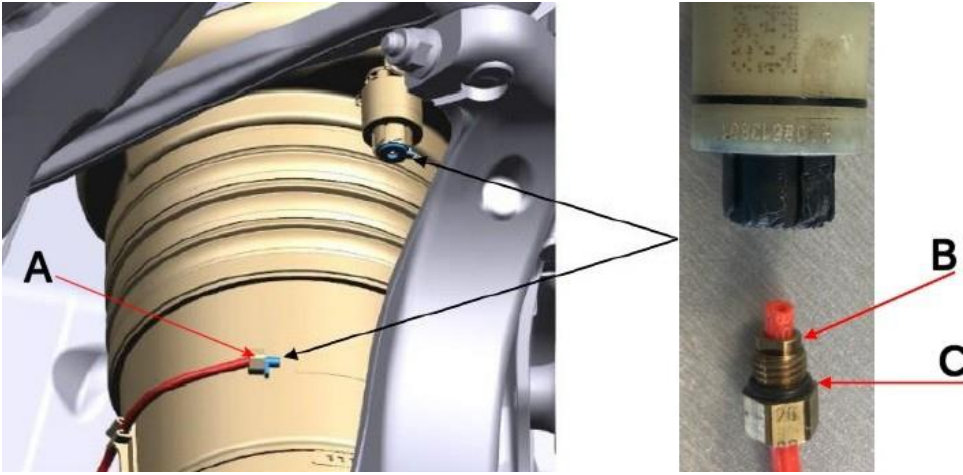

Figure 2
The operative **MUST** be aware that when disconnecting the air supply line from the air spring damper **ONLY** the brass nut connector (Figure 2 - Point A) should be used for disconnection/installation
**DO NOT UNDER ANY CIRCUMSTANCES ATTEMPT TO DISCONNECT THE AIR SPRING DAMPER AIR SUPPLY LINE FROM ANY OTHER CONNECTION OTHER THAN AS SHOWN IN FIGURE 2 - Point A**
**Referring to Figure 2 - Points B and C the operative MUST be aware of the following:**
- The operative MUST ensure the grip ring (B) is correctly installed and not damaged
- The operative MUST also ensure the O-ring (C) is correctly installed and not damaged